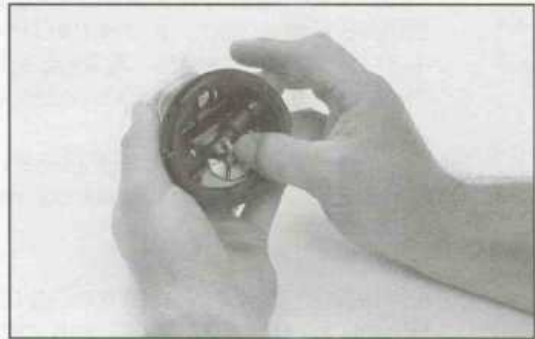

FIG 6-14
15. Using the TUSA in-line adjustment tool, slowly turn the adjustment orifice (11) clockwise until a slight resistance is felt or a slight movement of the demand lever (17) is noted. This indicates that it has made contact with the poppet seat (8). DO NOT continue to turn the orifice any further beyond this point, causing the demand lever to drop. Doing so will damage the poppet seat by creating an indentation in the seating surface from the sharp sealing (knife) edge of the orifice.
16. Lubricate and install the adjustment tube o-ring (26) onto the adjustment tube (25). There is one easy method to install the adjustment tube into the regulator case (27). Refer to figure 6-14 and follow closely. Holding the case in your left hand, lay the adjustment tube inside the case directing the threaded end through the outer opening. Ensure that the larger portion of the flange is facing toward you. Position your right thumb on the flange and your middle finger on the threaded end of the adjustment tube. The adjustment tube will now be easily manipulated upward past the demand lever valve assembly and into the adjustment tube port of the regulator case until the flange is fully seated.